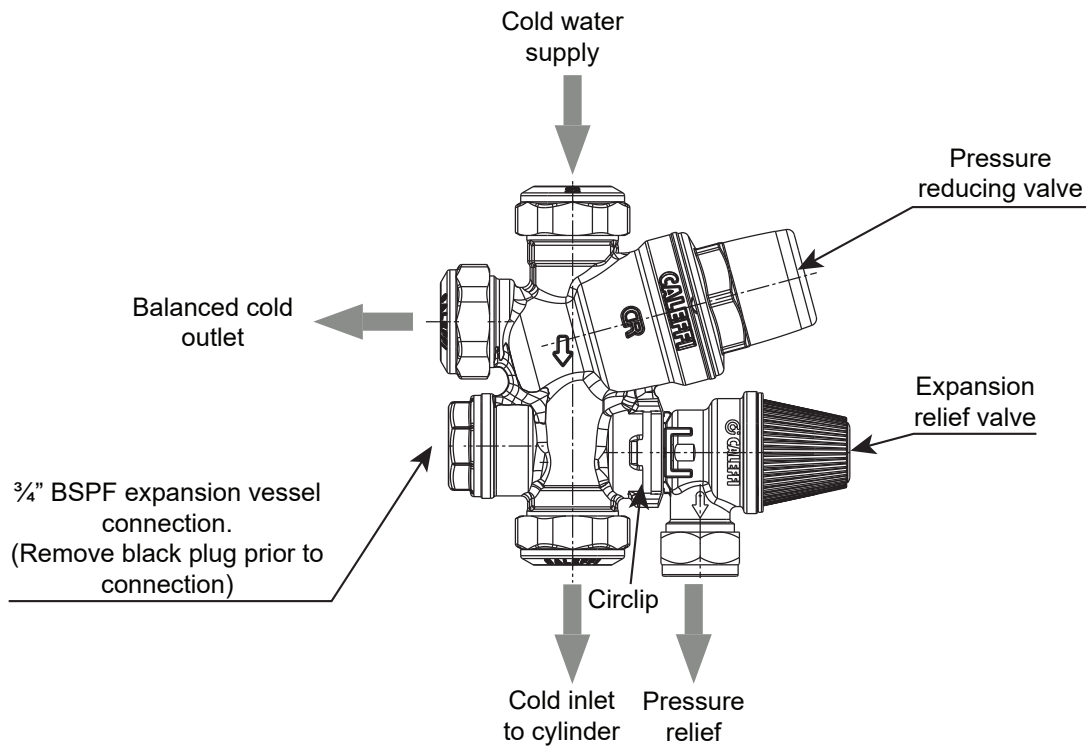

Figure 4-1: Cold water inlet manifold (orientation as fitted on a Grant QR2 cylinder)
A balanced cold water connection is provided on the inlet manifold. Refer to Figure 4-1. This should only be used to provide balanced cold supplies to shower valves and mixer taps. If the balanced cold water outlet is not required, blank off this port.
3. Once the pipework is flushed connect the cold supply to the Inlet manifold. Refer to Figure 2-1 for location and Figure 4-1 for a detailed drawing of the manifold. A service valve (not supplied) must be fitted in the cold supply to the cylinder before this connection is made.
6. Connect the expansion vessel directly to the ¾" BSPF connection in the inlet valve manifold body, after removing the black plastic plug (see Figure 2-1 for location and Figure 4-1 for a detailed drawing of the manifold). Refer to Section 4.4 for more information on fitting the expansion vessel.
8. The pressure reducing valve has two outlets, the first being the cold supply to the cylinder; the second one is for a balanced cold water supply (Refer to Figure 4-1), to a shower or a bidet (over rim type only, ascending spray type requires type AA, AB or AD air gap).
This expansion vessel must be connected into the cold water supply, between the expansion relief valve (in the inlet manifold) and the cold water inlet to the cylinder. Refer to Figure 4-1.
The preferred method of connection is to hard pipe the expansion vessel directly to the 3/4" BSPF connection in the inlet valve manifold body using 22 mm diameter pipe. Refer to Figure 4-1.
1. Remove the black plastic plug from the inlet manifold body (refer to Figure 4-1).